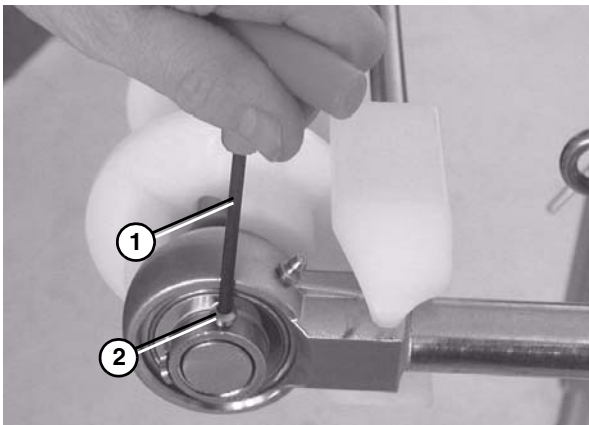

Figure 68
4. Use a hex wrench (Figure 68, item 1) to loosen the bearing shaft assembly fasteners (Figure 68, item 2).